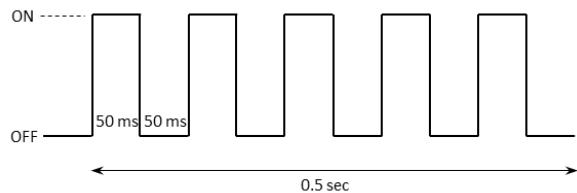

Figure 1-1: The GREEN or RED LED Pattern After the POST
- a. If the POST passes, **GREEN** is toggled ON and OFF every 50 ms for 0.5 sec, as shown in Figure 1-1.
- b. If the POST fails, **RED** is toggled ON and OFF every 50 ms for 0.5 sec, as shown in Figure 1-1.